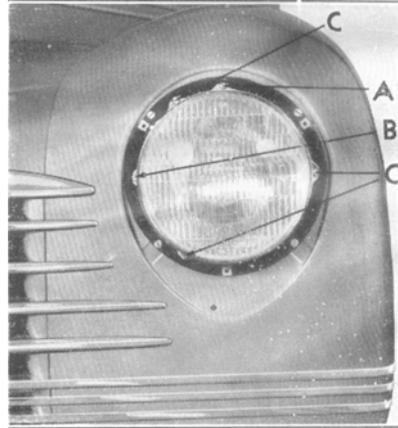

Figure 30
2. Loosen, but do not remove, the three screws (C), Fig. 30, holding the retaining ring. (Do not disturb the aiming screws (A and B) at the top and left side of the unit.)
vertical adjustment screw is shown at (A) and the horizontal adjusting screw at (B), Fig. 30. The light beam is moved to the right or left by tightening or loosening the horizontal adjusting screw (B). The beam may be raised or lowered by turning the vertical adjusting screw (A).